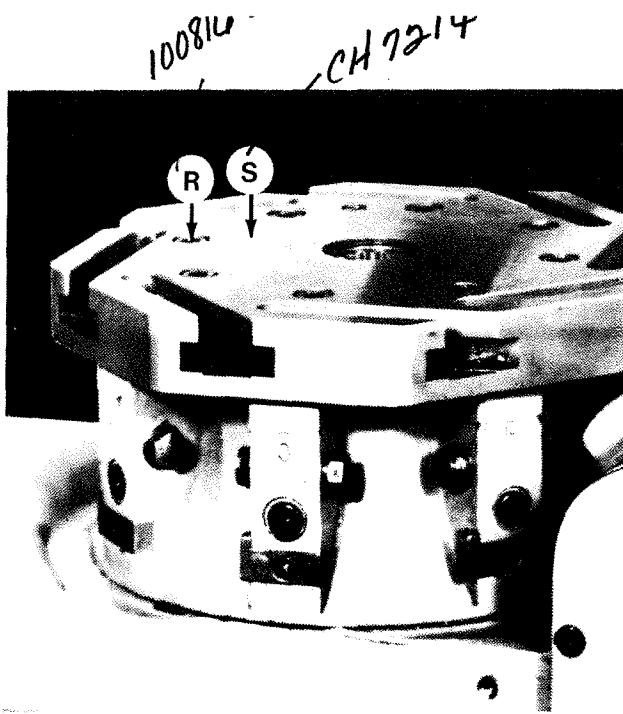

Figure 2.19 - Turret Top Plate
14. Remove eight screws "R" and top plate "S", Figure 2.19 .
Apply Permatex sealant to screws "R", Figure 2.19, before they are installed.
7. Replace top plate "S" and eight screws "R", Figure 2.19 .